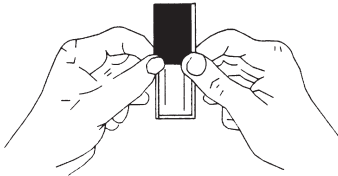

FIG. 1
3. Grip both edges of bag at the center barrier (FIG. 1) and wrinkle and flex the bag across the barrier. This will weaken the barrier.